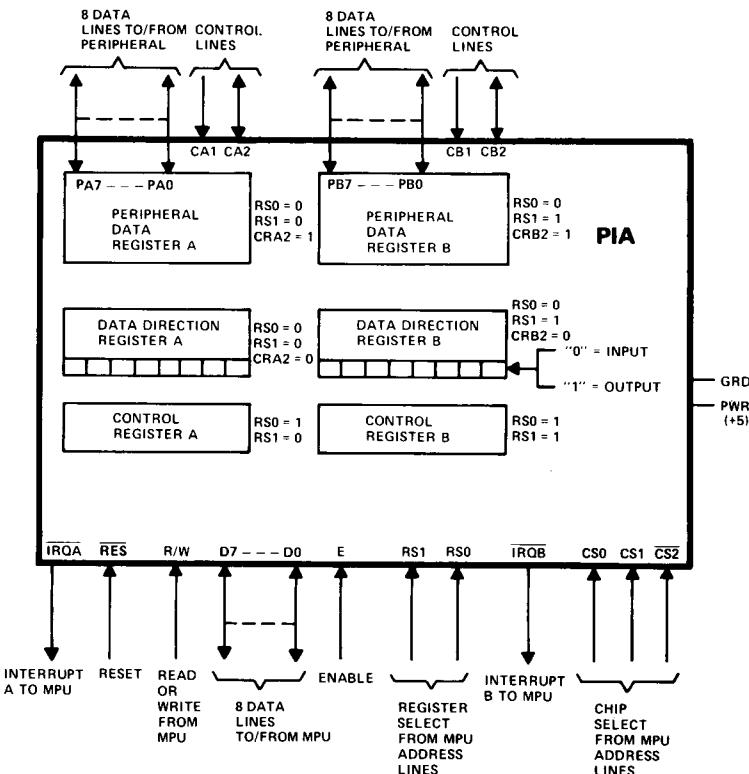
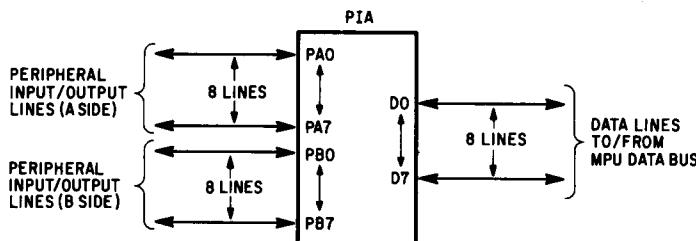
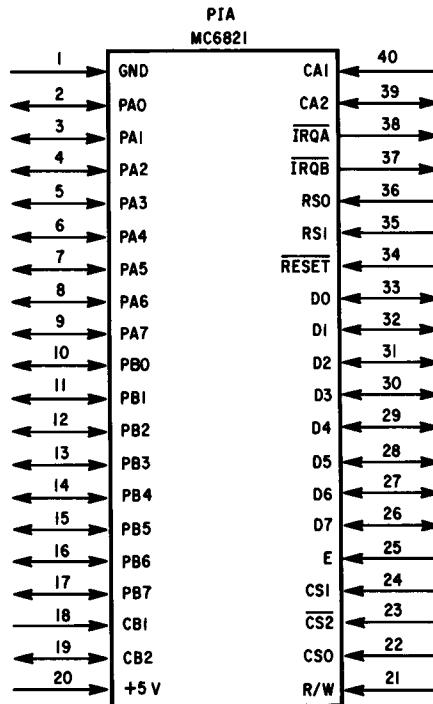

Fig. 9.14 MC6821 PIA
Fig. 9.15 MC6821 PIA input/output lines
Fig. 9.16 MC6821 package
The MC6821 Peripheral Interface Adapter (PIA) is an N-MOS device housed in a 40-pin package and used as a means of interfacing peripheral equipment and external signals with the MPU (Fig. 9.14). The PIA communicates with the MPU through the same eight-bit bidirectional data bus that the RAMs and ROMs share. The PIA has two separate eight-bit bidirectional peripheral data busses for interfacing to the outside world. The 16 bidirectional input/output lines may be programmed to act as either input or output lines (Fig. 9.15).
In addition to the 24 lines shown in Fig. 9.15, there are three chip select pins (CS0, CS1, and $\overline{CS2}$), a reset pin (\overline{RES}), two interrupt pins (\overline{IRQA} and \overline{IRQB}), a read/write Pin (R/W), four control line pins (CA1, CA2, CB1, and CB2), an enable pin (E), two register select pins (RS0 and RS1), and two input power pins (+5 and ground), as shown in Fig. 9.16.